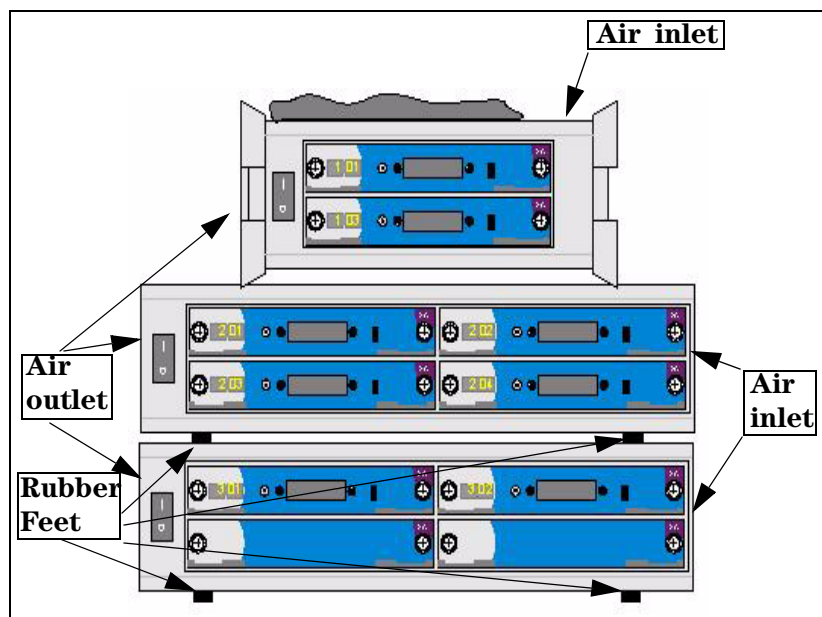

Figure 8 Pile of Chassis
- b Create a pile of the chassis, as shown in Figure 8.